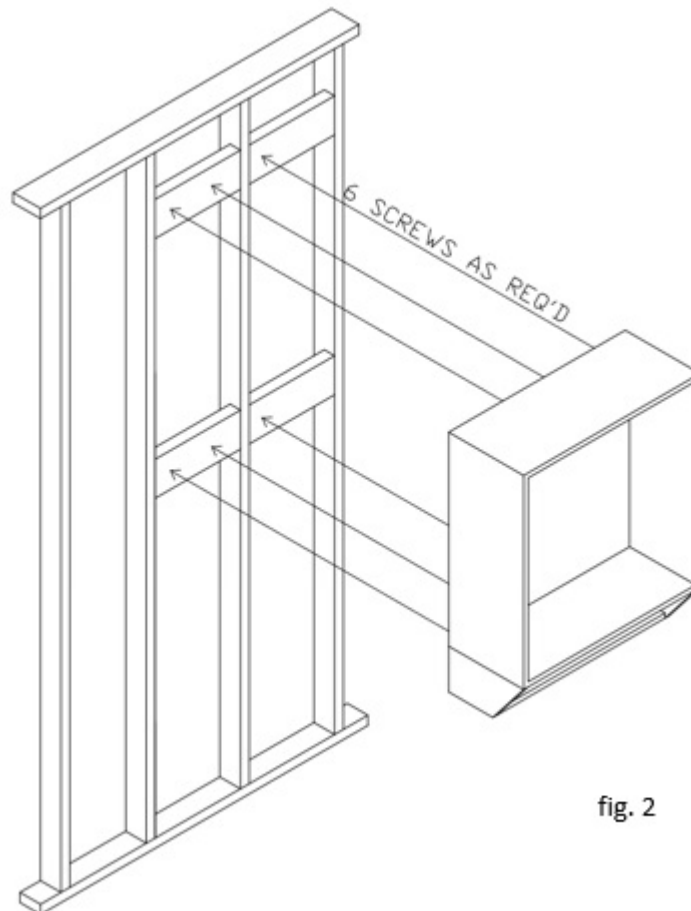

fig. 2
3. Using six # 10x2-½ screws, secure the Resupply Cabinet into the cabinet blocking through the cleats of the cabinet as shown in Figure 2. Use three screws along the top and three along the bottom.